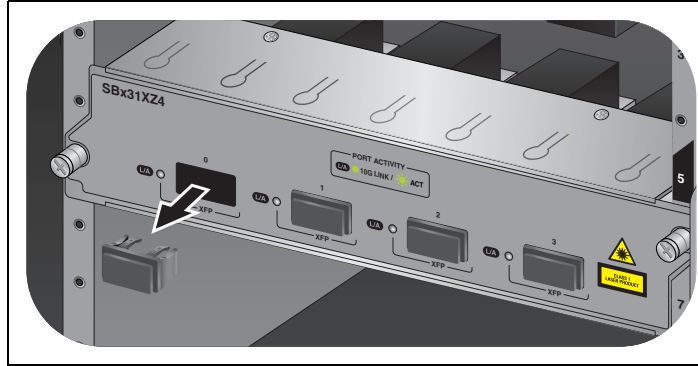

Figure 52. Removing an XFP Dust Plug
1. Remove the dust plug from a transceiver slot on the switch. Refer to Figure 52.